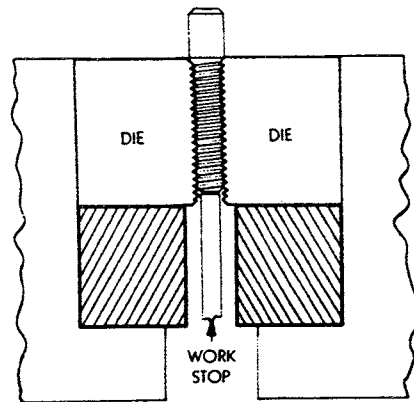

FIG. 37
- When a work stop is used to determine the length of thread to be rolled, filler blocks are placed under the die in order to bring the top of die even with the die pocket (Fig. 37).